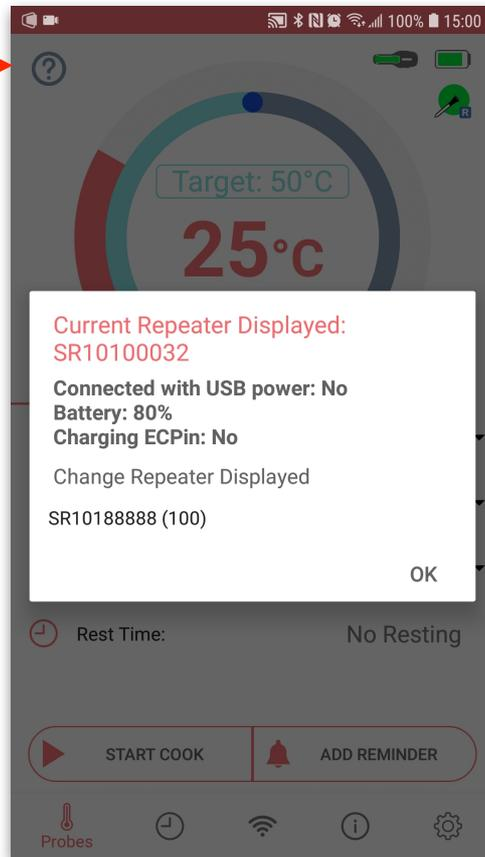

Figure 26. Repeater Detail Dialog
2. Click the repeater icon, a dialog box will pop up with details of the smart repeater (Figure 26)